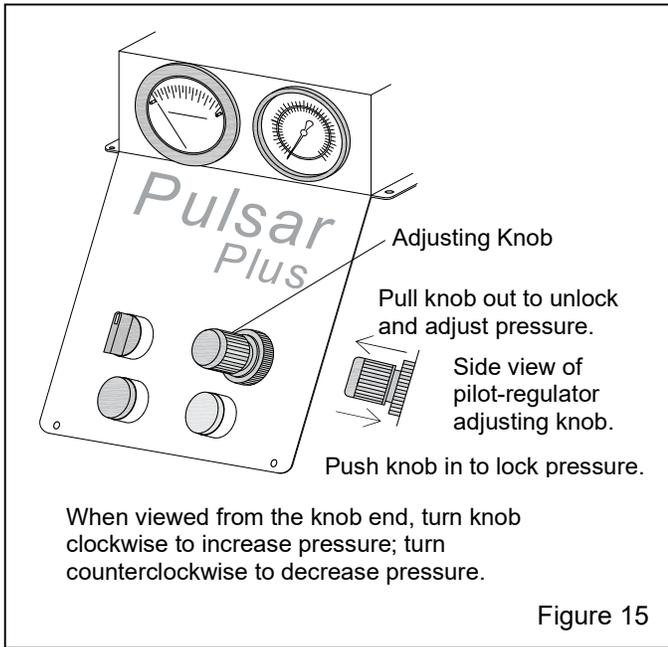

Figure 15
##### 5.1 Blasting Pressure (pilot regulator) – Figure 15
**5.1.2** Pressure registers on the gauge only while blasting. To adjust pressure, unlock the regulator knob by pulling it out, as shown in Figure 15. Hold the nozzle securely and press the foot pedal to begin blasting. Turn the knob clockwise to increase pressure or counterclockwise to decrease pressure. Once operating pressure is set, push the knob to lock it and maintain the setting.